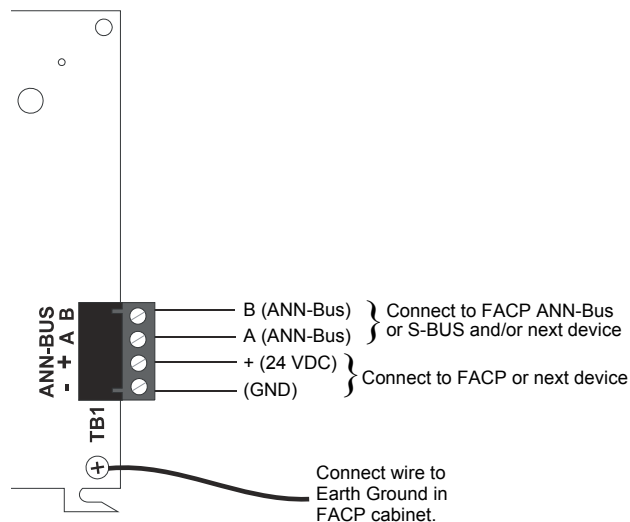

Figure 8 Wiring N-ANN-LED Series to FACP
Refer to Table 1.2 and Figure 8 for wiring connections.
6. For Canadian applications, remote modules must have a wire connected from the N-ANN-LED circuit board (refer to Figure 8) to a solid earth ground in the FACP cabinet. For multiple modules, daisy chain the wire connection.